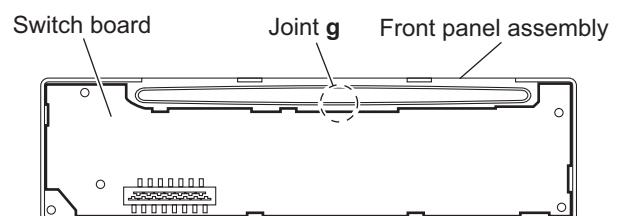

Fig.10
- Release the joint **g** and take out the switch board from the front panel assembly. (See Fig.10)